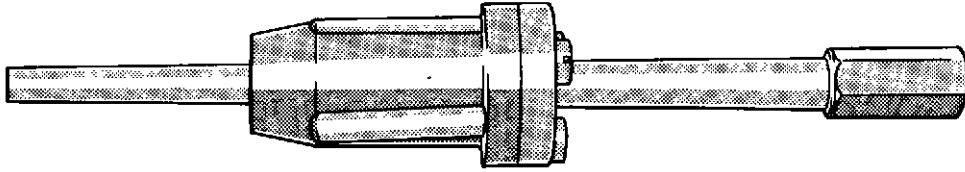

Fig. 13 Sleeve rolling tool
- 11 Locate the roller housing of the Expander Tool, GA 5026 (fig. 13), in the top of the sleeve, with its shoulder resting on the cylinder head top face; slide the tapered shaft through the roller housing